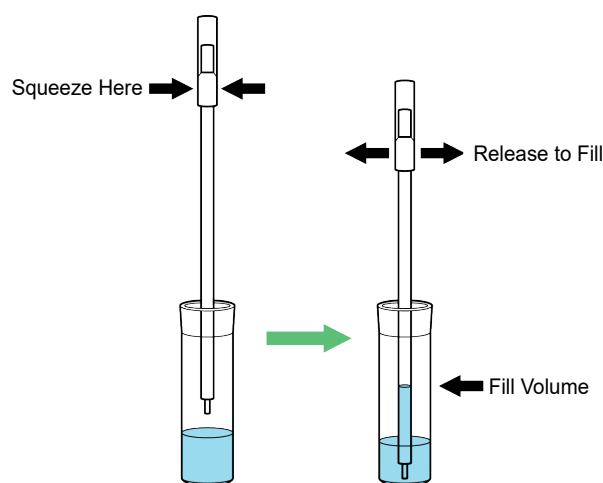

Figure 1. Transfer Pipette
1. Squeeze the bulb of the transfer pipette **completely** and place the pipette tip in the ESwab transport medium tube containing the patient specimen (see Figure 1).
4. Squeeze the bulb of the transfer pipette completely and place the pipette tip in the transport medium tube containing the patient specimen (Figure 1).